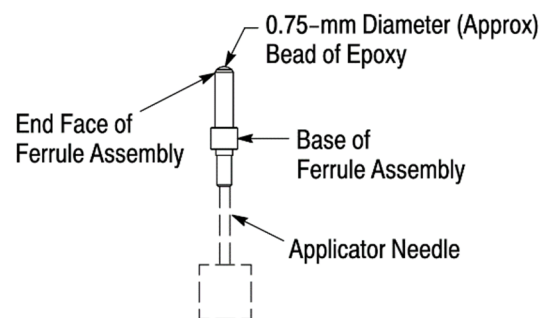

Figure 6
17. Hold the ferrule assembly vertically, and insert the needle tip into the base of the ferrule assembly until it is against the back (end closest to the base) of the ferrule assembly. Refer to Figure 6.